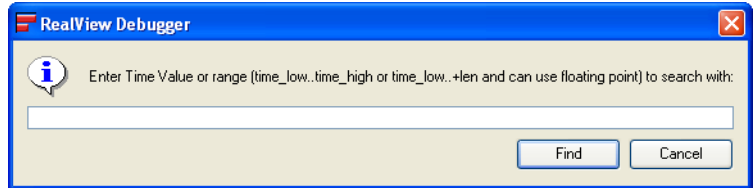

Figure 9-8 Finding a time match
1. Select **Find** → **Find Timestamp...** from the Analysis window menu to open the Prompt dialog box. Figure 9-8 shows an example: